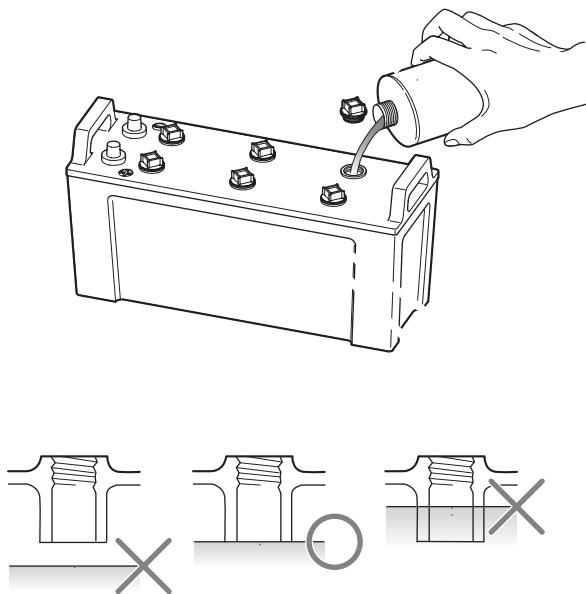

Figure 4-6
3. If the level is lower than the minimum fill level (**Figure 4-6**), fill with distilled water (**Figure 4-6**) up to the upper limit (**Figure 4-6**) of the battery. **WARNING! If operation continues with insufficient battery fluid, the battery life is shortened, and the battery may overheat and explode.**